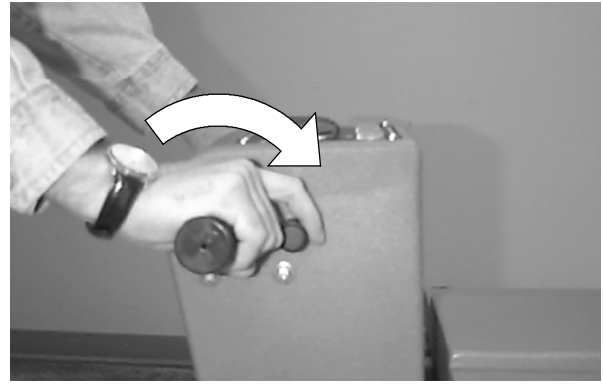

FIG. 13
4. Twist control grips forward to begin burnishing. Gradually turn speed control knob to desired cleaning speed (Figure 13).